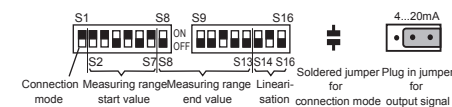

Fig.8. DIP switches, soldered jumper and jumper plug configuration the RishDucer PT 602 (illustration for the preferred single-channel version).
The while pressing the latch (18) in the base of the device (Fig. 8, left), pull out the transmitter securing brackets (10). Now secure the transmitter to the wall or panel using two 4 mm diameter screws.
The coarse calibration is performed on the DIP switches (Fig. 8) and the fine calibration on the potentiometers marked "Zero" and "Span" (see Section "10. Electrical connection"). It is necessary to remove the cover to set the DIP switches (see Section "8. Withdrawing and Inserting the device").